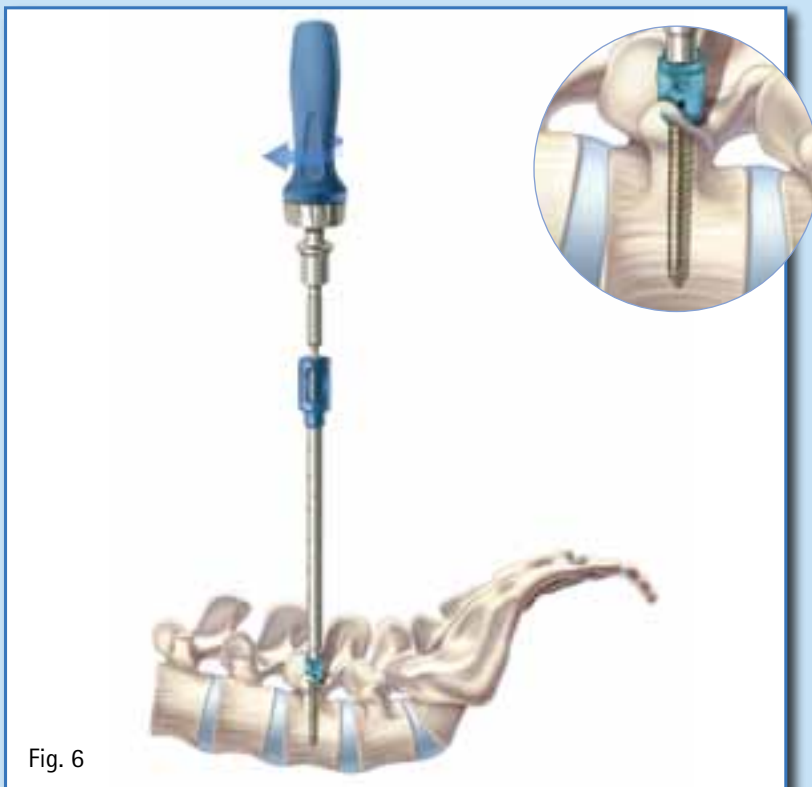

Fig. 6
- Thread the screw into the prepared pedicle and release the screwdriver from the screw head by turning the knob counter clockwise. (Fig. 6)